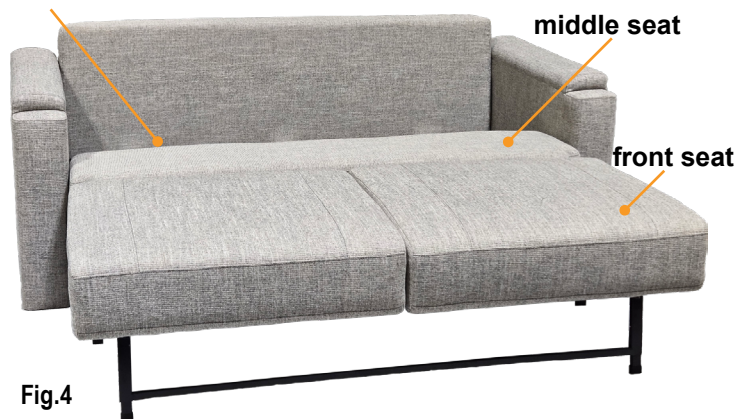

Fig.4
1. Unfold the front seat and middle seat to expose mounting bolts and nuts (Fig.4).